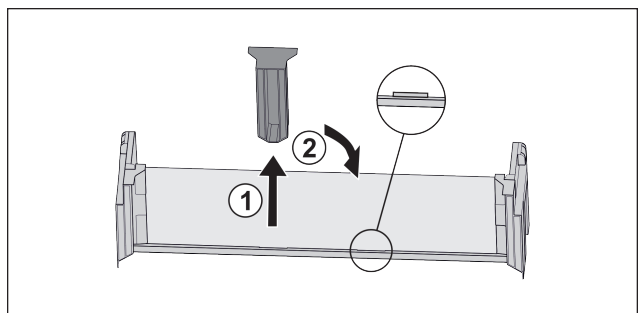

Fig. 22 *
- ▶ Pull off the middle holder Fig. 22 (1).*
- ▶ Insert the middle holder in the second position Fig. 22 (2).*